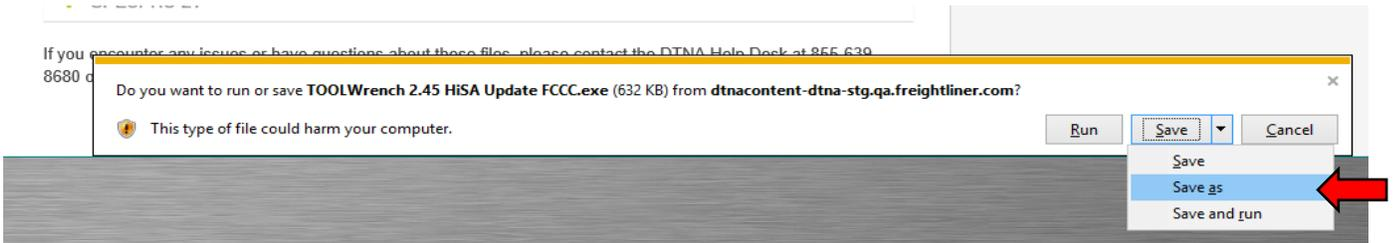

Fig. 4, Selecting Save As
6. Select 'Save As.' See Fig. 4.